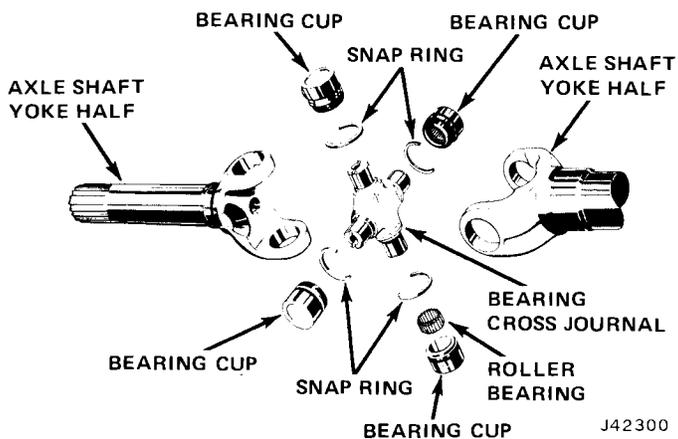

Fig. 10-5 Axle Shaft Universal Joint
(1) Remove axle shaft.
(2) Remove snap rings from bearing cup assemblies (fig. 10-5).
(3) Press on end of one bearing cup assembly until opposite bearing is pushed from yoke half.
(4) Turn yoke over and press first bearing out by pressing on exposed end of journal shaft.